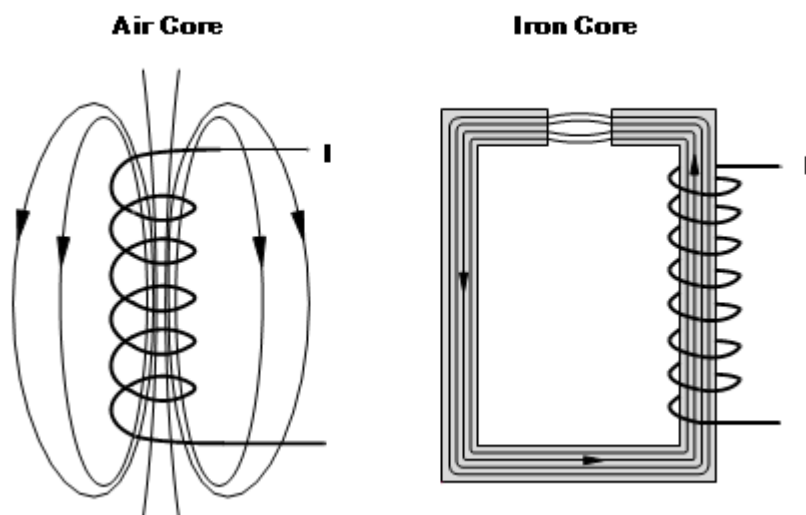

Figure 3.3: Electric coils with and without an iron core and their magnetic field lines
- The conductor is wound in the shape of a coil (air-core). As current flows through the coil a magnetic field is generated. The magnetic field is intensified by the multiple windings (or layers) of wires (see Figure 3.3).